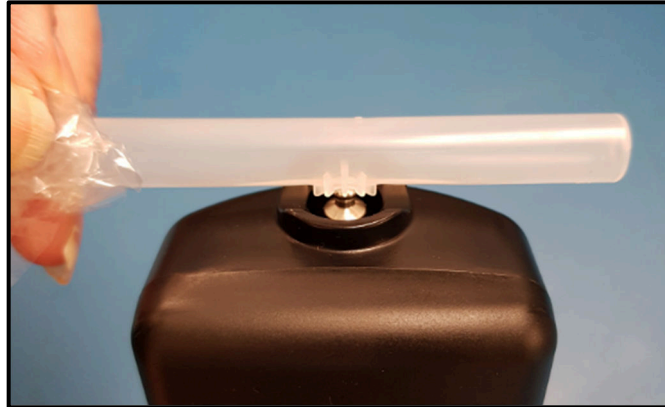

Figure 6 - Locating the Mouthpiece
- Locate the mouthpiece sample inlet port over the mouthpiece locator in line with the recess that surrounds the spigot (Refer to Figure 6).